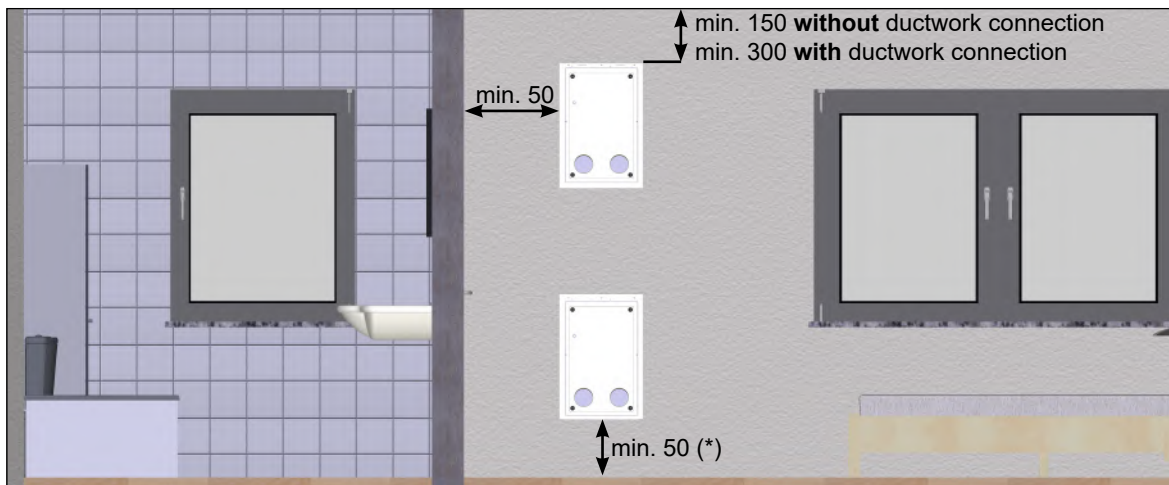
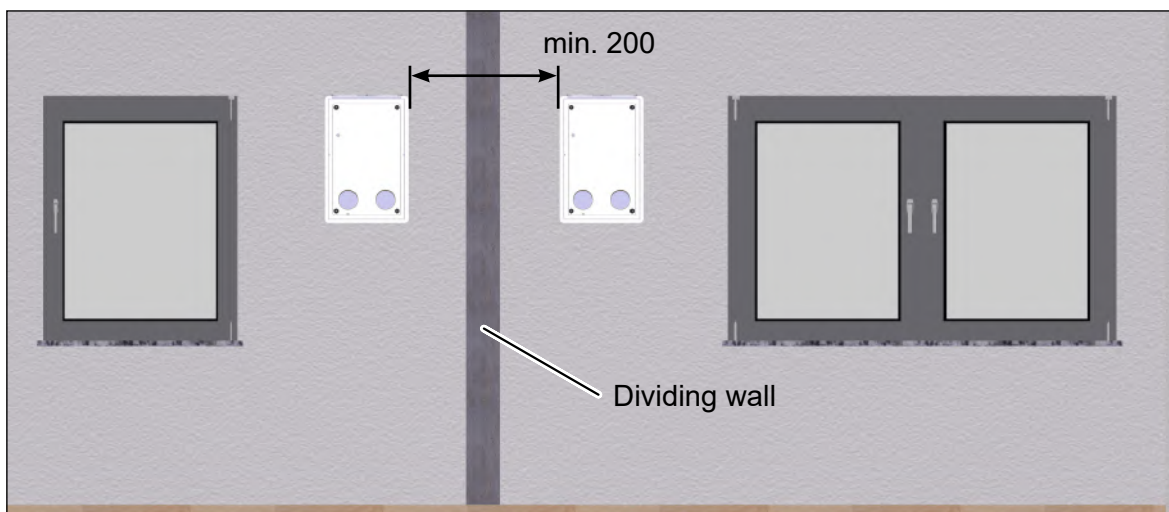

Fig. 4: Minimum distances and options for positioning the M-WRG-II M installation kit, dimensions in millimetres
Fig. 5: Lateral minimum distance between two wall boxes, dimensions in millimetres
- ▶ Maintain the following minimum distances (see Fig. 4 and Fig. 5):
- The distance between the side and bottom edges of the wall box and adjacent surfaces should be at least 50 mm (exception: if a condensate connection is used, see (\*) in Fig. 4 on page 10). The ventilation unit will be easier to operate if this minimum distance is maintained. It also allows the air filter to be replaced without obstruction.